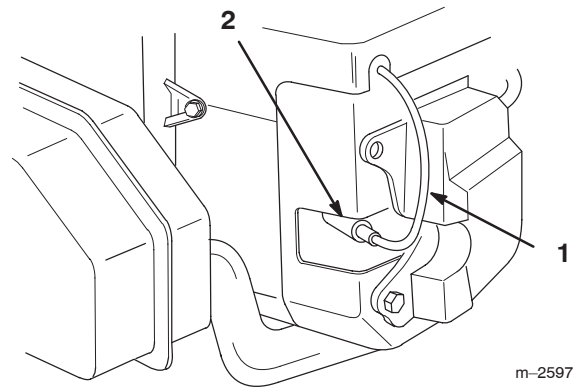

Figure 31
2. Pull the wire off of the spark plug (Fig. 31).
3. Push the wire onto the spark plug (Fig. 31).